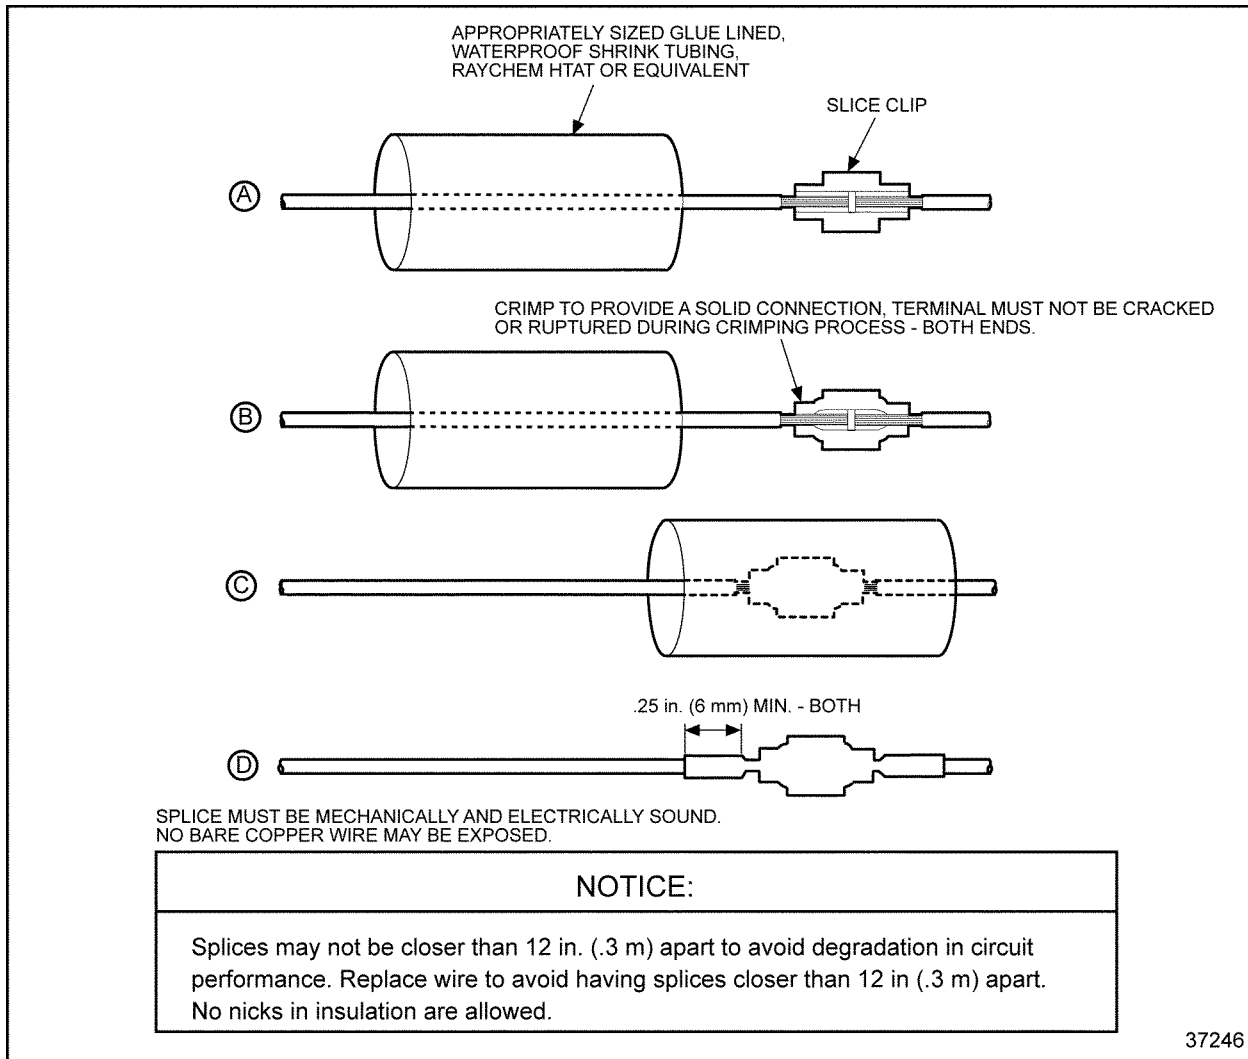

Figure 3-20 Splicing Straight Leads - Alternate Method 2
3. Slide a sleeve of glue lined, shrink tubing (Raychem HTAT or equivalent) long enough to cover the splice clip on the wire and overlap the wire insulation, about .25 in. (6 mm) on both sides (see Figure 3-20, A).
4. Insert one wire into splice clip until it butts against the splice clip. Stop and crimp (see Figure 3-20, B).
5. Insert the remaining wires into the splice clip one at a time until each butts against the splice clip; stop and crimp (see Figure 3-20, B).
7. Slide the shrink tubing over the crimped splice clip (see Figure 3-20, C).
8. Shrink tubing with a heat gun to seal the splice (see Figure 3-20, D).